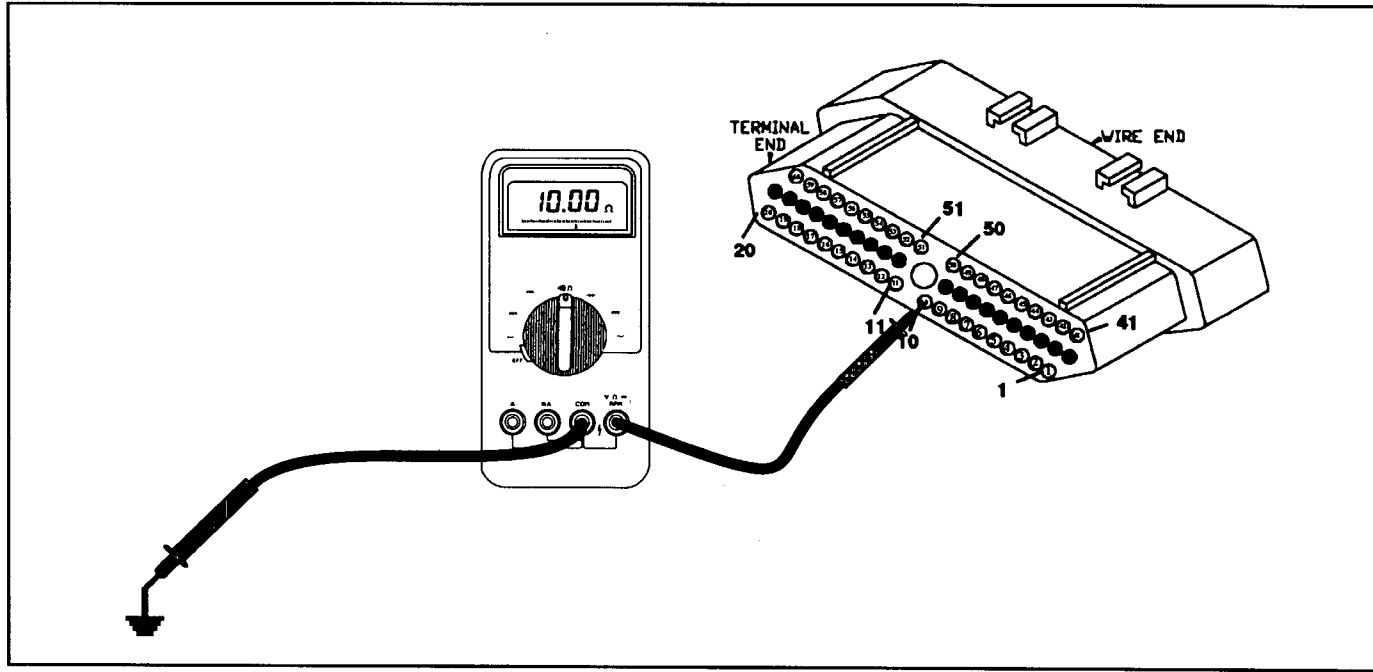

Figure 58
- Turn the ignition off. With the meter still on terminal 10, change to an ohms setting (See Figure 58). If the resistance is below 5 ohms, the wire is shorted to ground and will need to be repaired or replaced. If resistance is above 5 ohms, go to the next step.